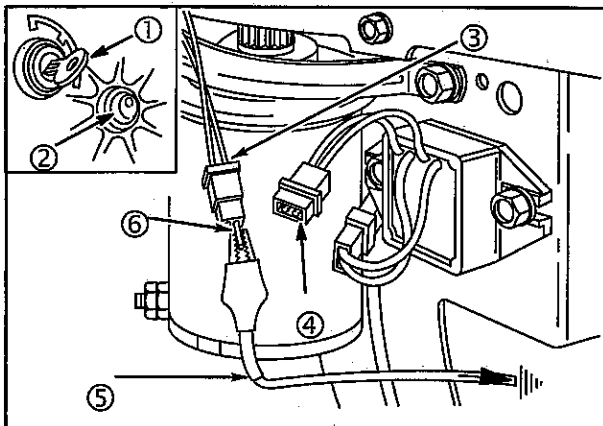

Fig. 44
1. Disconnect output harness (3) at WHITE connector (4), **Fig. 44**.
2. Attach one end of jumper wire (5) to a good ground.
3. Attach other end of jumper wire (6) to charge indicator terminal in harness connector, **Fig. 44**.
- a. Turn key switch to ON position (1).
- b. If bulb (2) **LIGHTS**, charge indicator wiring system is OK. Replace regulator/rectifier.